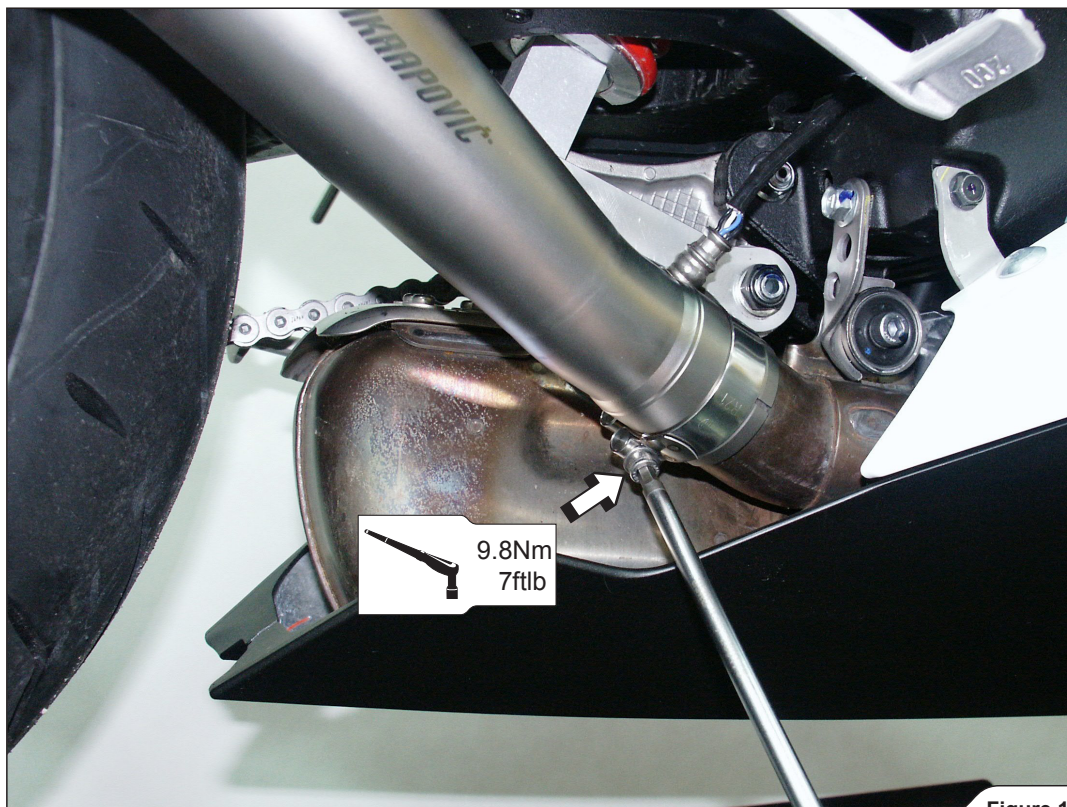

Figure 17
3. Tighten the metal megaphone inlet clamp to a specified torque (**Figure 17**).